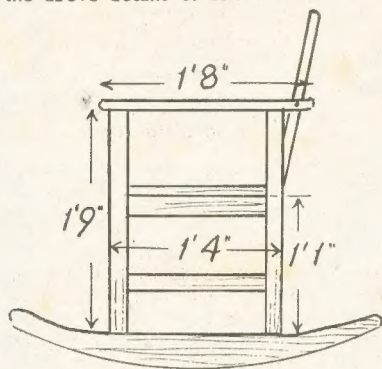
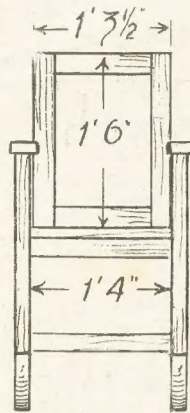
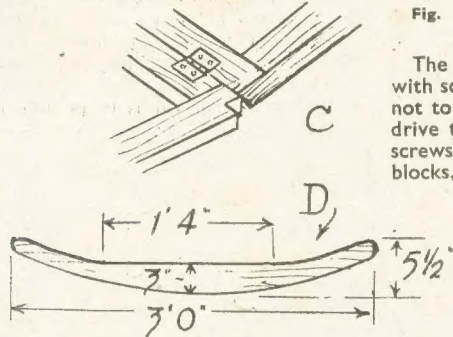

Fig. 1—Side view of main parts
Fig. 2—Front view of chair
Fig. 5—The rocker and back hinging
Fig. 1 is a side view of the chair, and Fig. 2 a front view, giving the necessary dimensions. Any other measurements necessary can be taken as the work progresses, or will be found in the text. A cutting list at the end of the article is added, as a help to ordering the wood.
The arm rests are cut to length given in Fig. 1 from 1in. by 2in. wood. Note that these are to be fitted on the top of
The back frame is seen in Figs. 1 and 2, and is similarly made up as the seat frame, from 1in. by 2in. wood. Readers who do not mind a little extra trouble can well joint both frames together with mortise and tenon joints and make a more professional looking article. This back frame is then hinged to the seat frame, after the latter is fitted in place, with 2in. iron butt hinges, as at (C), Fig. 5.
To complete the woodwork part of the job, only the rockers are now required. These are detailed more clearly at (D) in Fig. 5. They are cut from wood 1 1/2ins. to